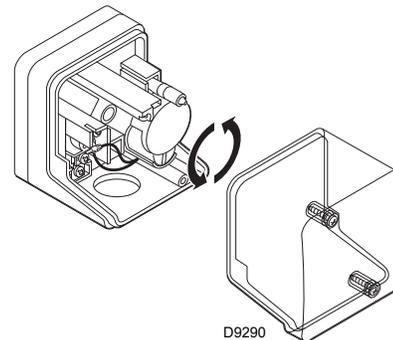

Fig. 37
- Adjust the minimum gas pressure (Fig. 37) switch to the start of the scale.
Adjust the minimum gas pressure switch (Fig. 37) after having performed all the other burner adjustments with the pressure switch set at the start of the scale.